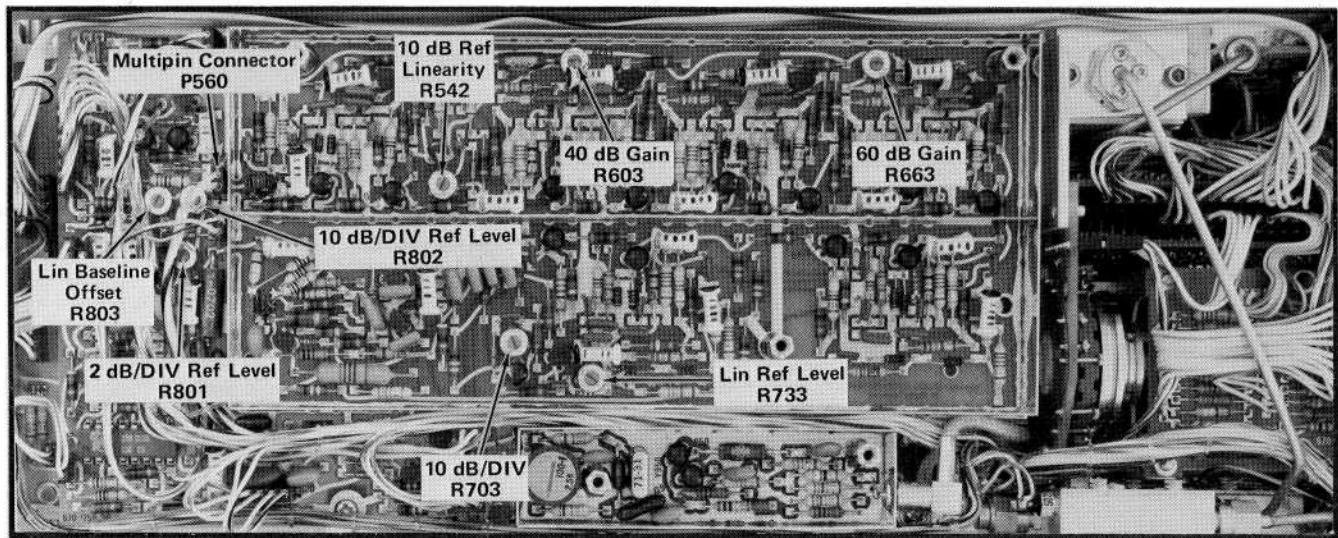

Fig. 4-3. Function IF calibration adjustments and test points.
Pull the harmonica (multipin) connector P560, to pins 1 and 2 on the Function IF circuit board (Fig. 4-3).
b. Adjust the Lin Baseline Offset R803 (Fig. 4-3) clockwise from a fully CCW position to a point where the trace stops moving down. (Do not adjust past this point.)
b. Apply a 10 MHz -10 dBm signal, from a calibrated signal source, through appropriate adapters (BNC female to SEAELECTRO female, SEAELECTRO male to male adapter, and SEAELECTRO female to harmonica connector) to P560 (Fig. 4-3). Note: Part numbers for these adapters are provided under Equipment Required List. If an accurate 10 dB, 50Ω step attenuator is available, connect it in series with the signal source.
c. Adjust the 2 dB/Div Ref Level R801 (Fig. 4-3) so the trace is at the 5th graticule line down from the top.
g. Adjust Lin Ref Level R733 (Fig. 4-3) so the trace is at the top graticule line.
i. Calibrate the center screen dynamic range to 20 dB (2 division) by adjusting 10 dB/Div R703 (Fig. 4-3) as the signal input level is changed 20 dB.
j. Set the signal input level to -40 dBm. Adjust 10 dB/Div Ref Level R802 (Fig. 4-3) so the trace is at graticule center.
k. Increase the signal level to 0 dBm then adjust the 10 dB Ref Linearity R542 (Fig. 4-3) so the trace is at the top graticule line.
o. Adjust the 40 dB Gain R603 (Fig. 4-3) so the trace is at the reference level or top of the graticule.
r. Adjust the 60 dB Gain R663 (Fig. 4-3) so the trace is at the reference level.